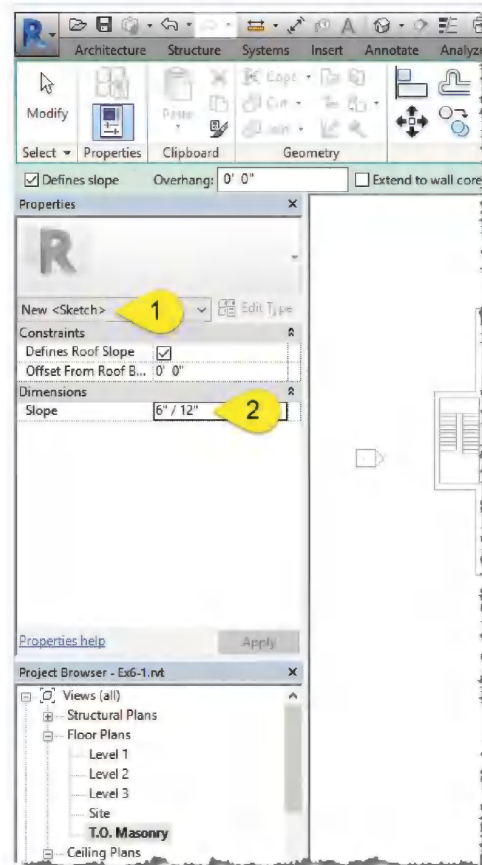

FIGURE 6-1.3 Properties Palette
14. Click the **Properties Filter** drop down and select New <Sketch> as pointed out in Figure 6-1.3.